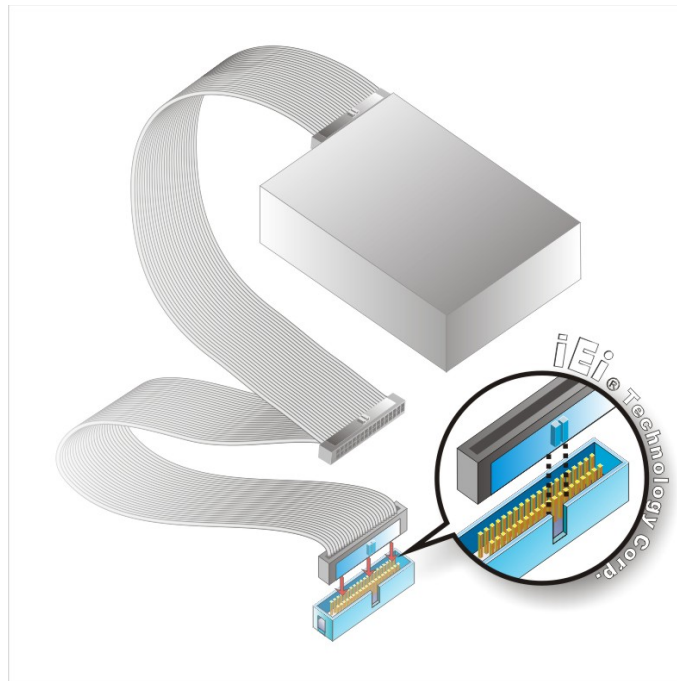

Figure 4-15: IDE Cable Connection
Step 2: Insert the connector. Connect the IDE cable connector to the onboard connector. See Figure 4-15. A key on the front of the cable connector ensures it